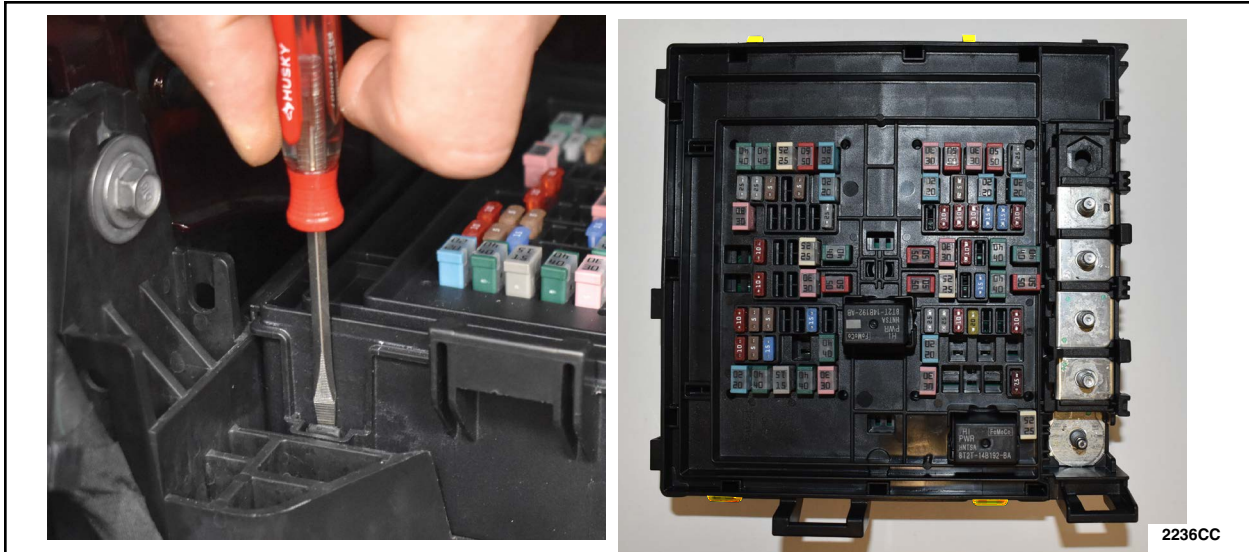

FIGURE 8
9. Separate the upper and lower BJB housings from the bottom cover. There are 4 clips that fasten these two parts together, two in the front and two in the rear. It is easiest to release these tabs with a small screwdriver. See Figure 8.